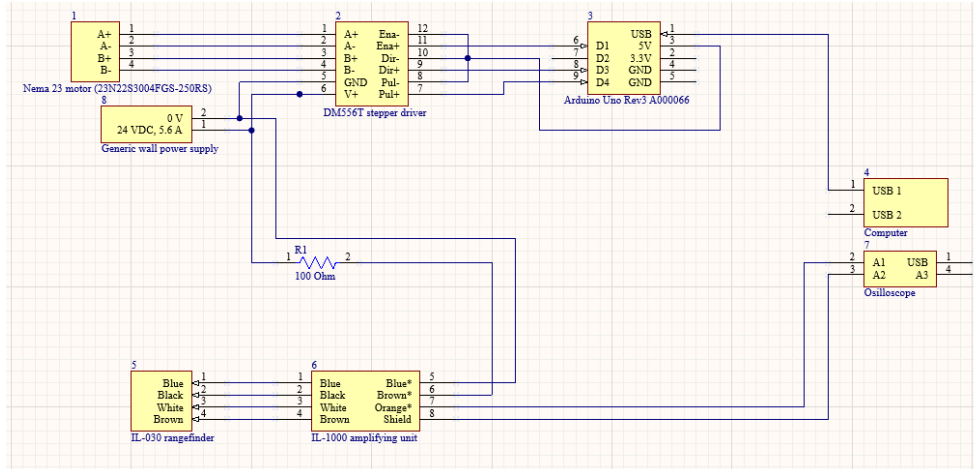

Fig. 3: Wiring diagram
1.08: Connect wiring for IL-1000 in accordance with test stand wiring diagram as shown in Fig. 3.
6.02: Disconnect wires from test stand assembly as shown in Fig. 3.	OK? _____